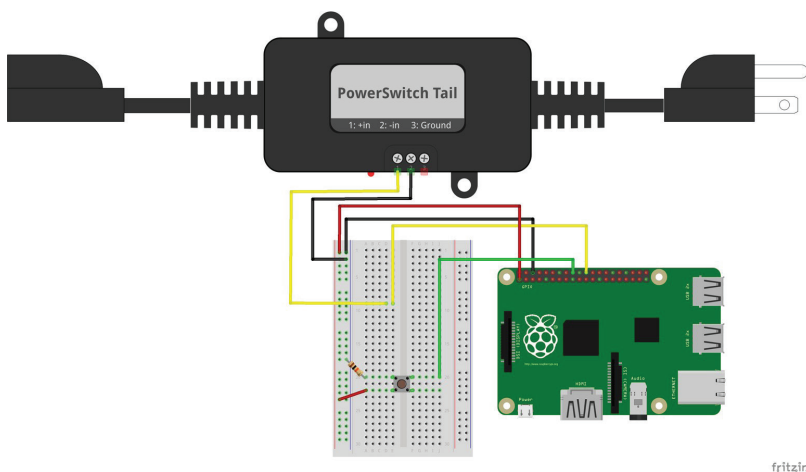

Figure 6-8. *Connecting a PowerSwitch Tail II to the Raspberry Pi*
4. The strand of wire that connects to ground should be connected to the “-in” terminal of the PowerSwitch Tail. Compare your circuit to Figure 6-8.